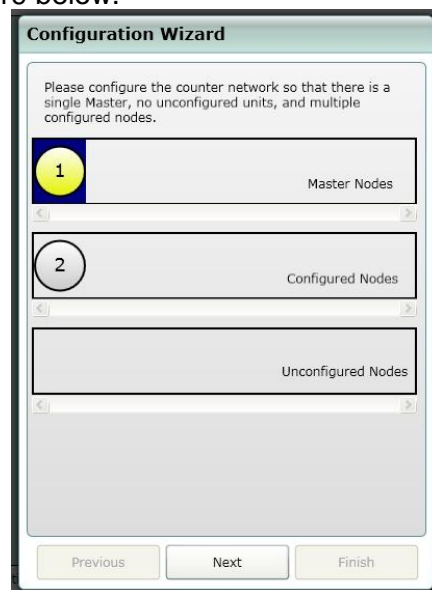

Figure 19
2. You will have 1 Master Node and at least 1 Configured Node in step 5. You will have to drag and drop the sensors into their necessary roles. See Figure 19 below.